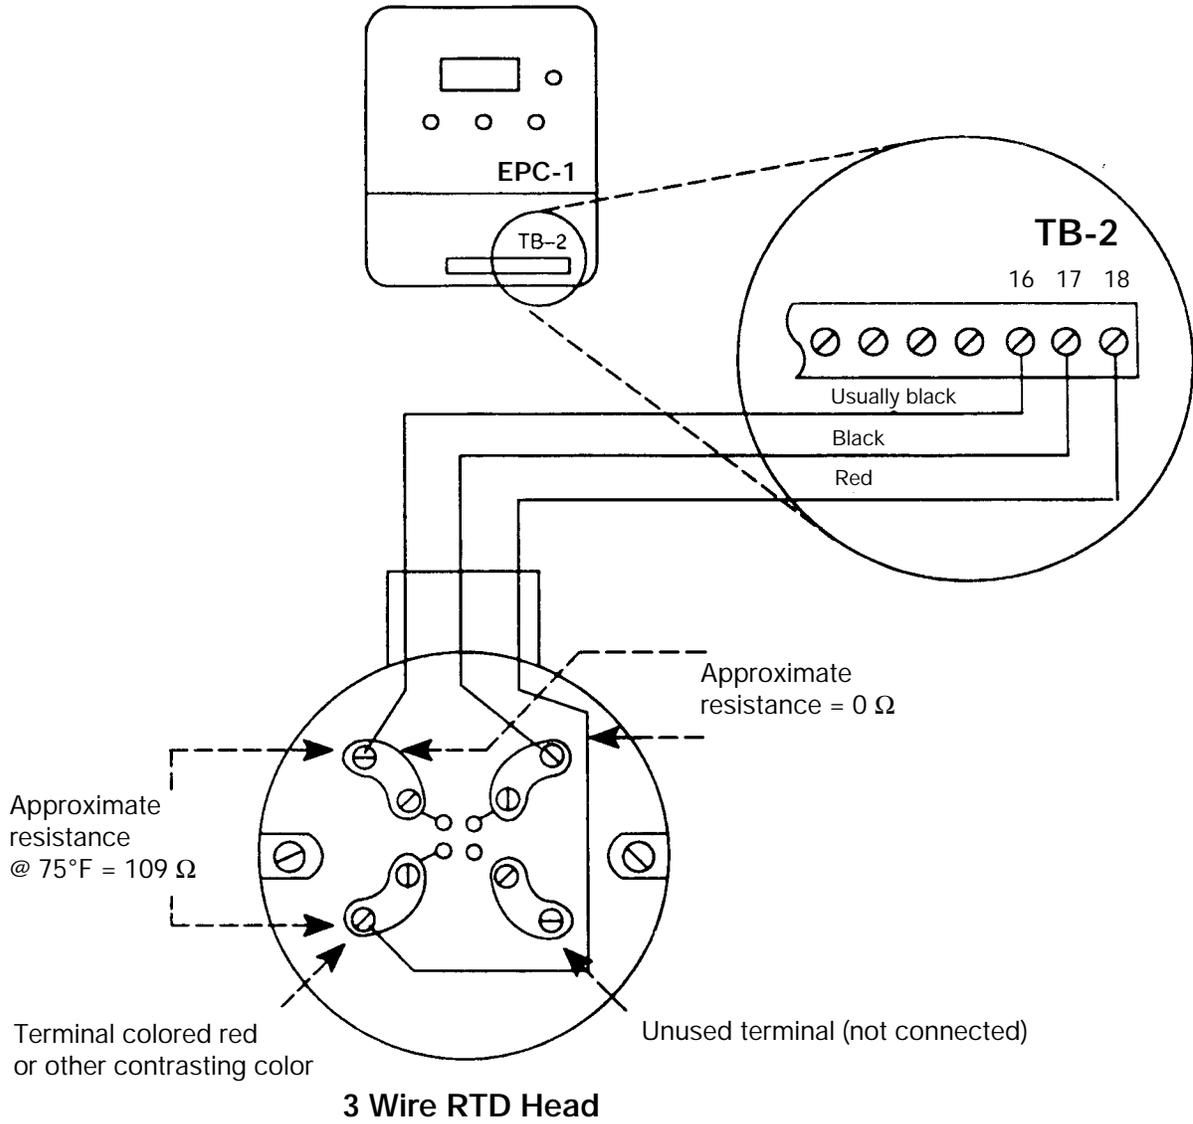
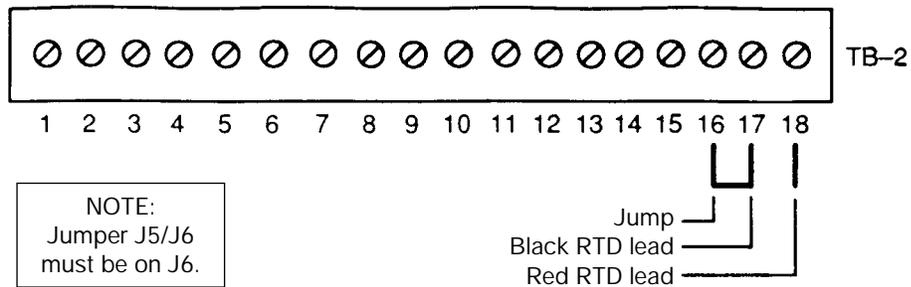

FIGURE 5
FIGURE 6
6. When the EPC-1 is being used as a temperature controller with an RTD, an optional signal conditioning card, calibrated for a temperature range suitable for the process, must be installed in TB 5. Jumper at J5/J6 must be on J6. (See figure 7) For a 3 wire RTD, connect the two RTD wires that are internally connected together (zero resistance between them) to terminals 16 and 17 and the remaining connection to terminal 18 of TB-2. (See Figure 5). For a 2 wire RTD, jump terminals 16 and 17. (See Figure 6). See Appendix C for guidelines on practical distance limitations.
- a) If an RTD is being used, make sure that the wires are connected according to the diagram in the EPC-1 Installation and Operation Manual. If in doubt, measure the resistance across the terminals, as shown in Figure 5.